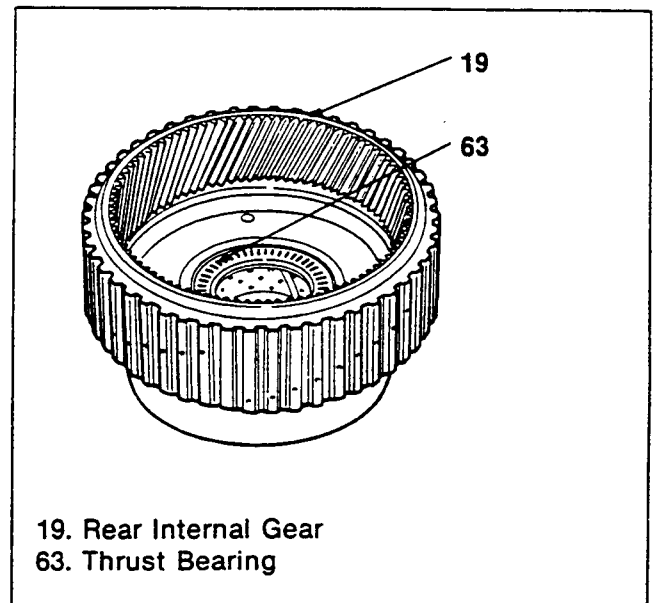

Figure 258. Forward Clutch Hub and Rear Internal gear Installation (1)
Forward Clutch Hub and Rear Internal Gear (Figures 258 and 259)
1. Apply Vaseline to the thrust bearing and attach it to the rear internal gear (figure 258).